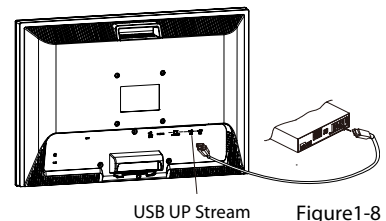

Figure1-8
1. Connect the USB UP Stream Cable to the LCD Monitor. (See Fig. 1-8)